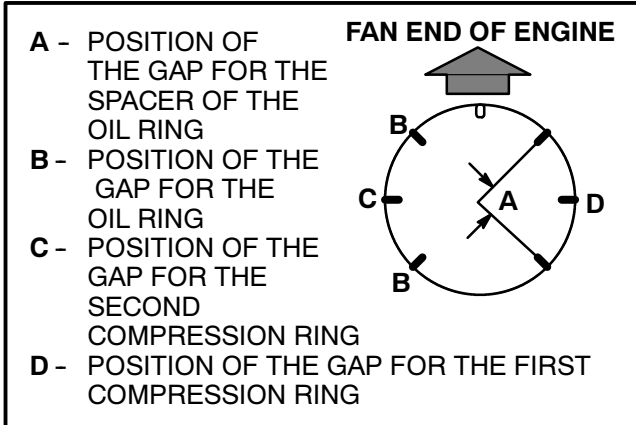

FIGURE 48. ARRANGEMENT OF THE PISTON RINGS ON THE PISTON
2. Check the clearances of the piston rings as described in "Piston Rings". Install the piston rings on the piston as shown in FIGURE 48.
1. Lubricate the assembly with engine oil during installation. Arrange the piston rings on the piston as shown in FIGURE 48. Install a ring compressor on the piston.